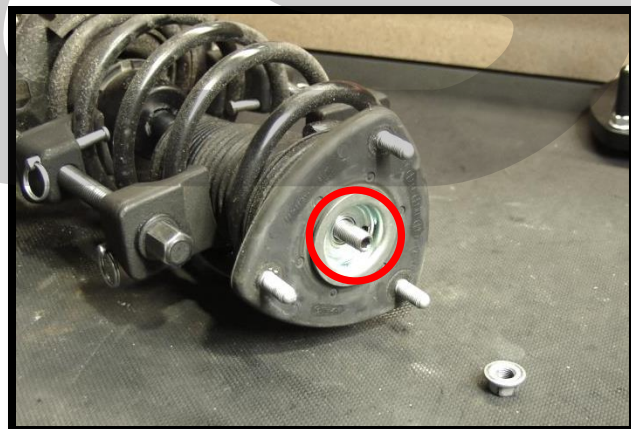

Figure 2h
- j) Remove the 17mm nut holding the upper strut mount to the strut (Figure 2h).
- j) Remove the 17mm nut holding the upper strut mount to the strut (red circle in Figure 2h).